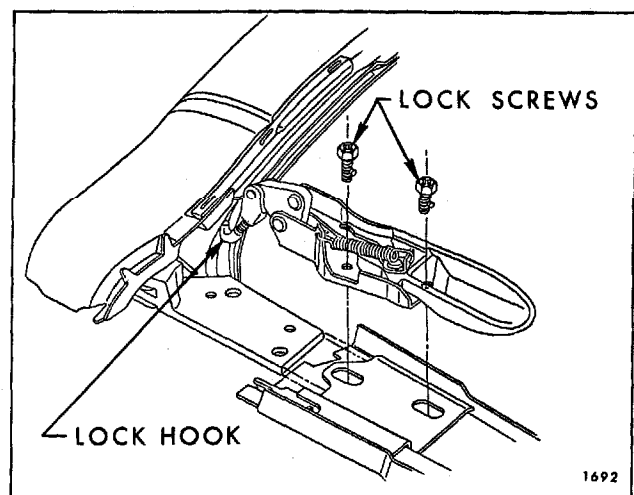

Fig. 6-83—Lock Attachment
2. Loosen side roof rail lock attaching screws and adjust front roof rail fore or aft as required. Repeat on opposite side if necessary (Fig. 6-83).
2. With top in a half-open position, remove lock attaching screws; then, remove lock assembly from front roof rail (Fig. 6-83).